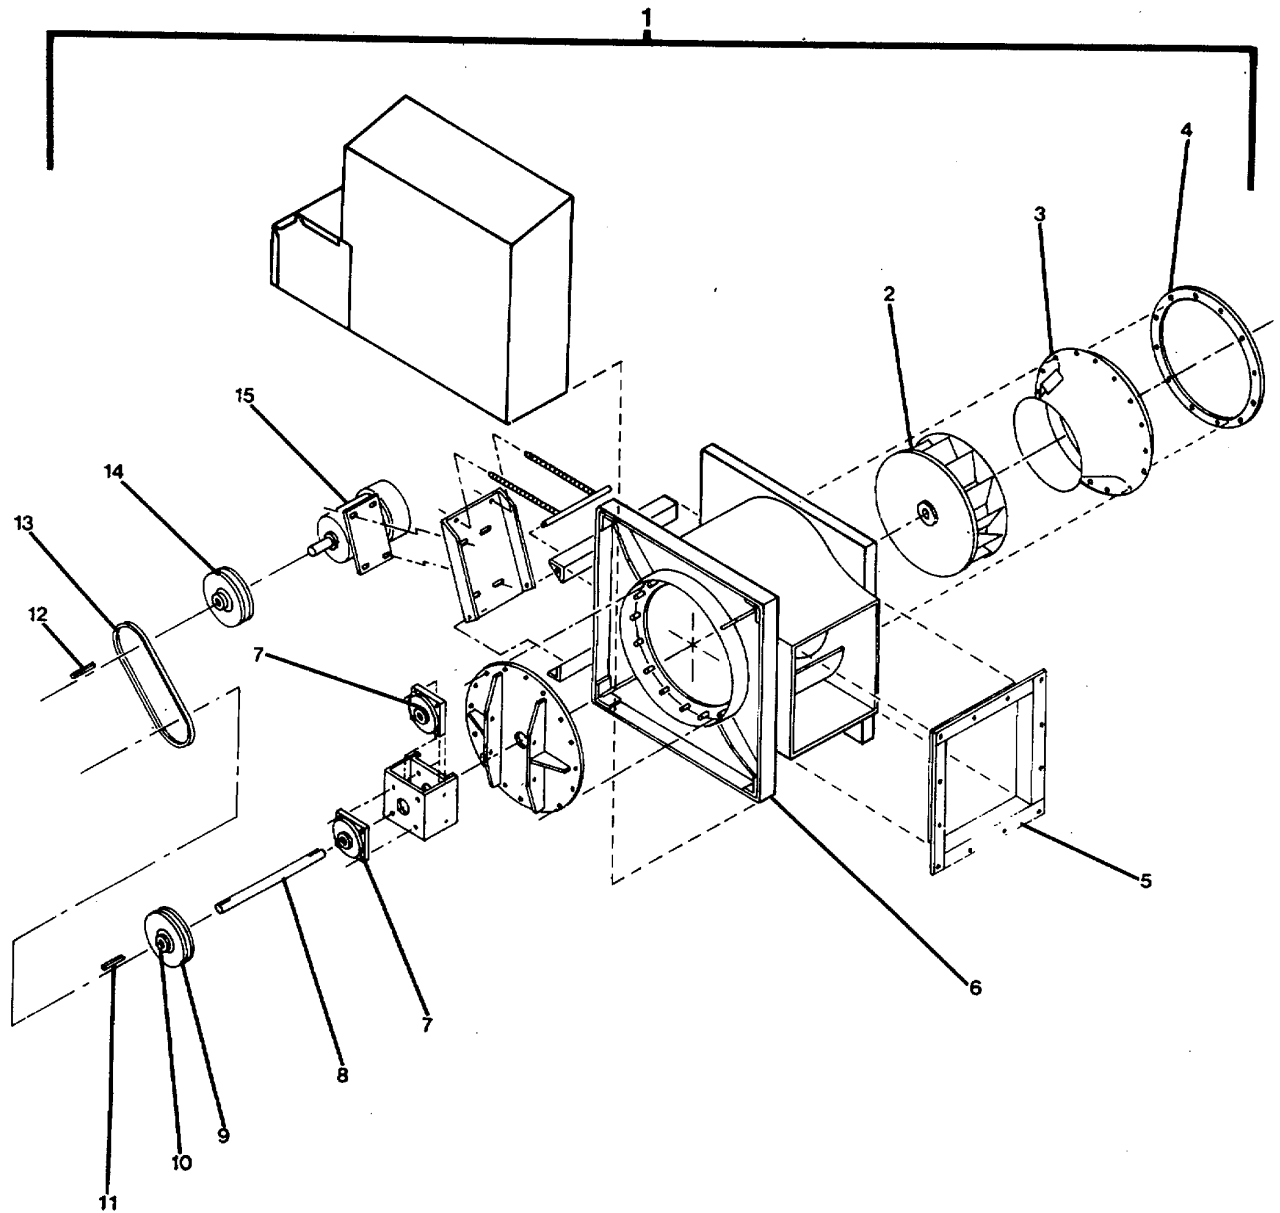

Figure 3-15. Ventilating Fans (Exhausts Fan #4 and #6).
**3-24. Repair Fan, Ventilating (Exhaust Fans #4 and #6). (FIGURE 3-15)**